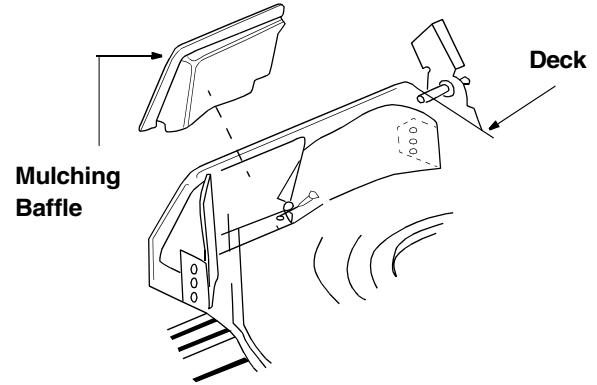

Figure 6
- Lift the rear discharge door and install the mulching baffle. See Figure 6.